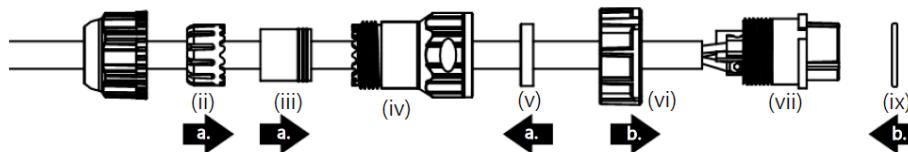

Figure 49: Steps 3 and 4
3. Fit the gasket (v), sealing (iii), and clip (ii) onto the sealing body (iv) (Figure 49).
4. Fit the lock (vi) and o-ring (ix) onto the housing (vii) (Figure 49).